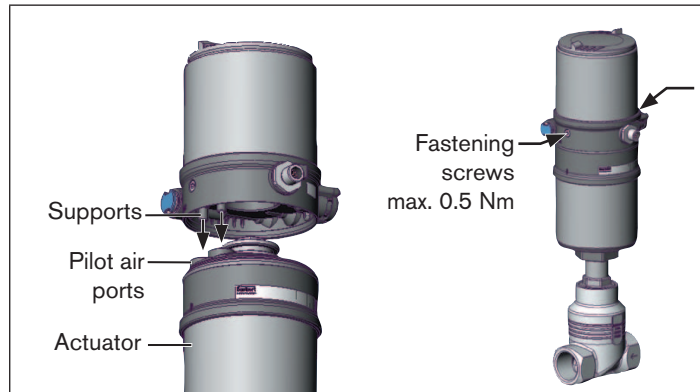

Fig. 5: Aligning the puck holder, series 2103, 2300 and 2301
2. the supports of the positioner can be inserted into the pilot air ports of the actuator (see also “Fig. 5”).